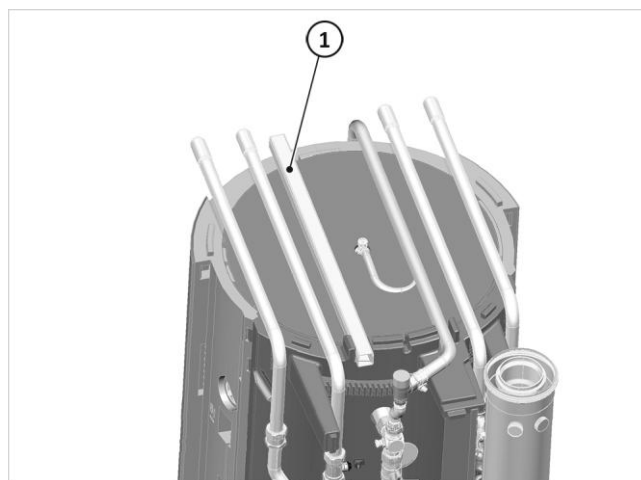

Fig. 104: Cable routing duct
1. Route the Modbus line of the junction box through the cable routing duct → *fig. 104* (1) in the cover area.